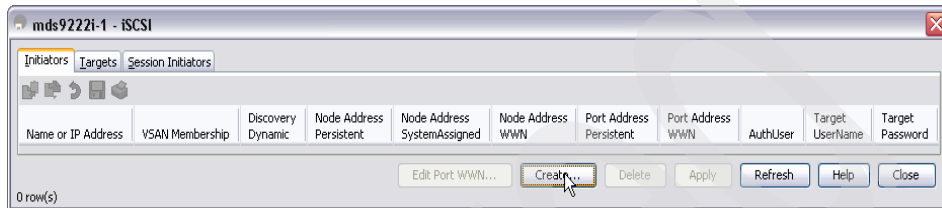

Figure 7-38 Device Manager iSCSI panel
1. Select **IP** → **iSCSI** to get the panel shown in Figure 7-38. Click **Create**.